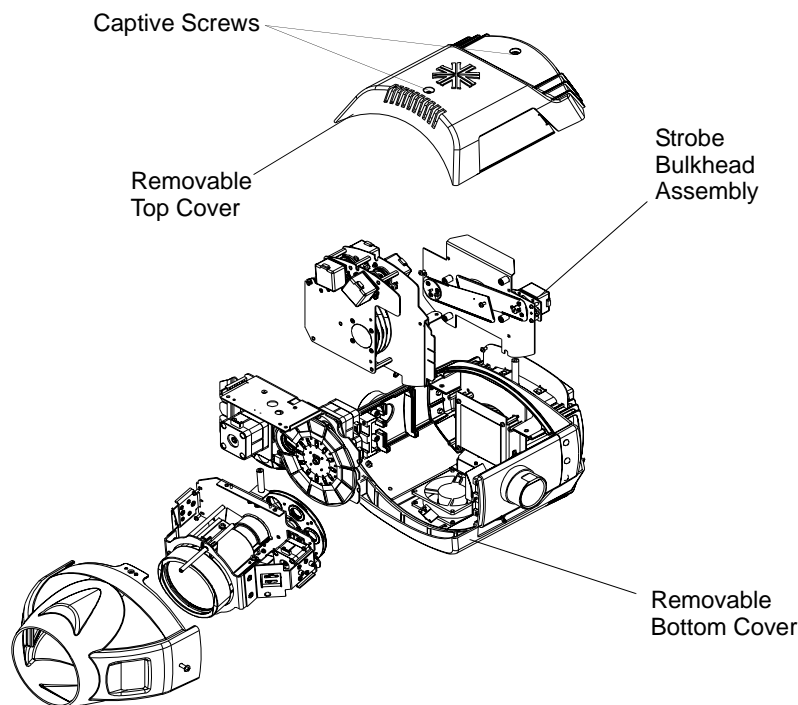

Figure 2-5: Dimmer Bulkhead Replacement
- Loosen two captive screws and remove top cover as shown in Figure 2-5 (the cover is attached by tether).